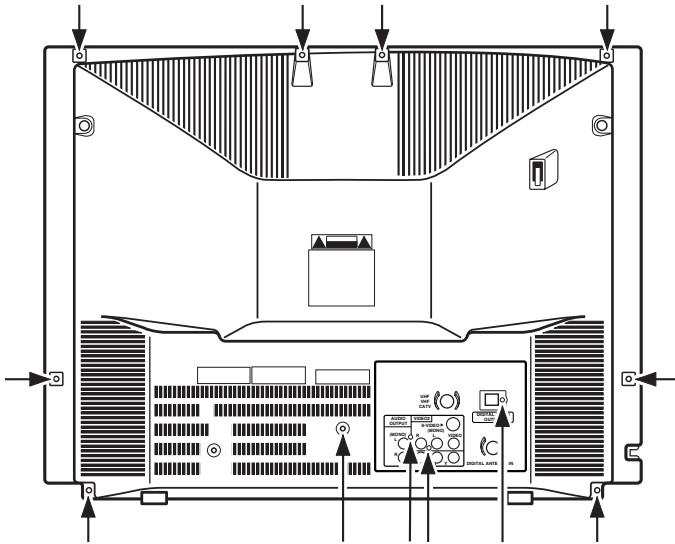

Figure 1. Cabinet Back Removal
1. Refer to Figure 1, remove 12 screws.